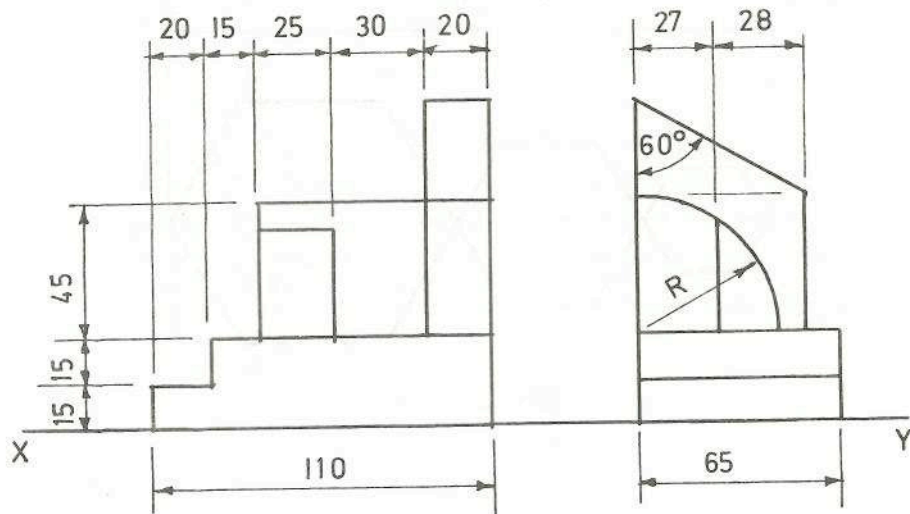

Fig. 5
5. The elevation and end-elevation of a shaped solid are given in Fig. 5.
B. Using the isometric grid paper provided make a neat well-proportioned FREEHAND sketch of the solid shown in Fig. 5.